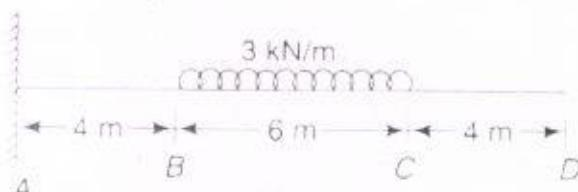

Fig. 4
- Q.4. A A cantilever of 14-m span carrying loads is shown in Fig. 4. **Draw** the shear force and bending moment diagrams.